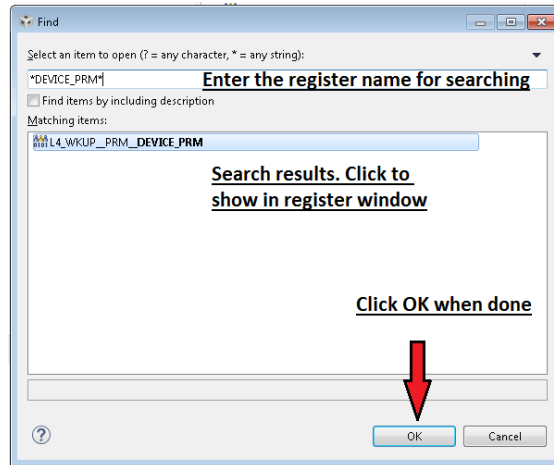

Figure 11. Register View Find Pop Up Window
2. Figure 11 shows the register view find pop up window.